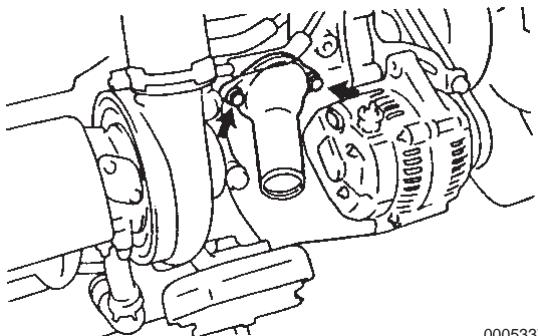

Figure 7-9
4. Remove the thermostat and the gasket from the thermostat **(Figure 7-9)**.